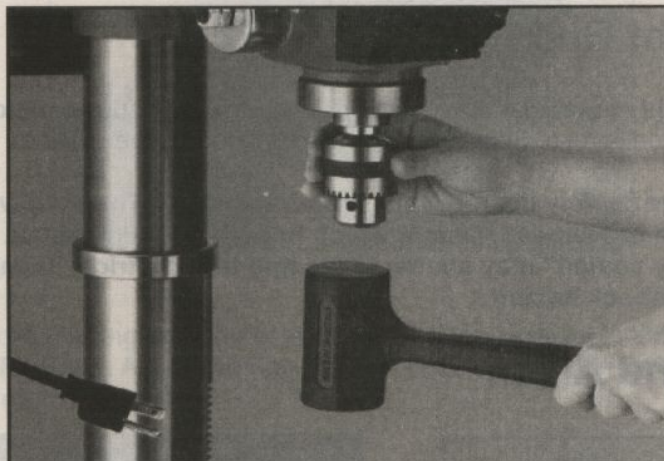

Figure 10
5. Tap the end of the drill chuck with a rubber or wooden mallet to seat it as shown in **Figure 10**.